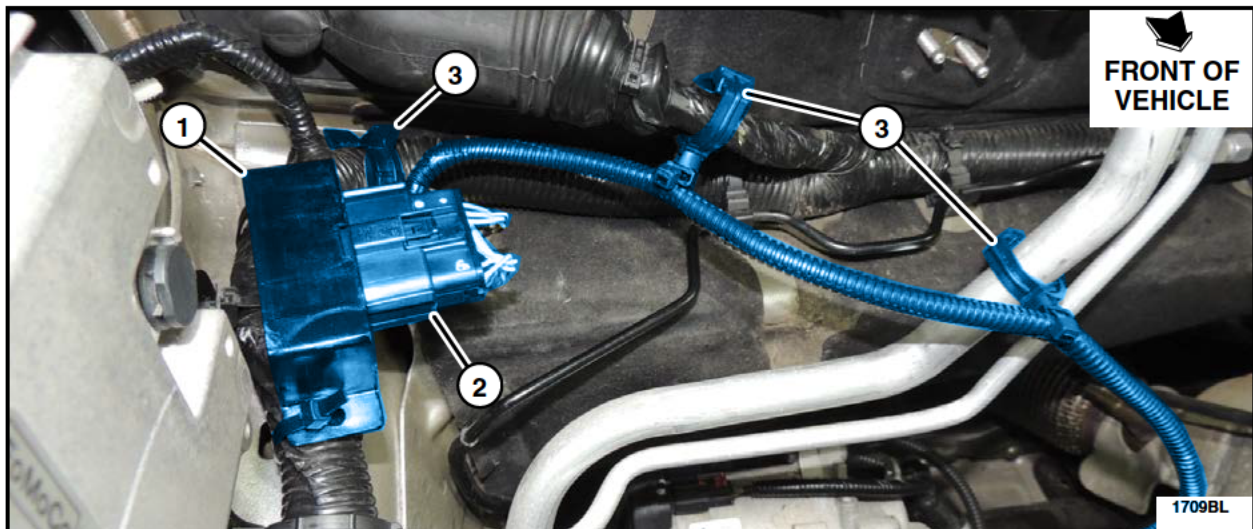

FIGURE D1
2. Install the junction box and coolant stand-pipe wiring harness. See Figure D1.
3. Route the coolant stand-pipe wire harness downward to the EPAS and secure to the bulkhead wire harness and A/C line as shown in Figure D1.